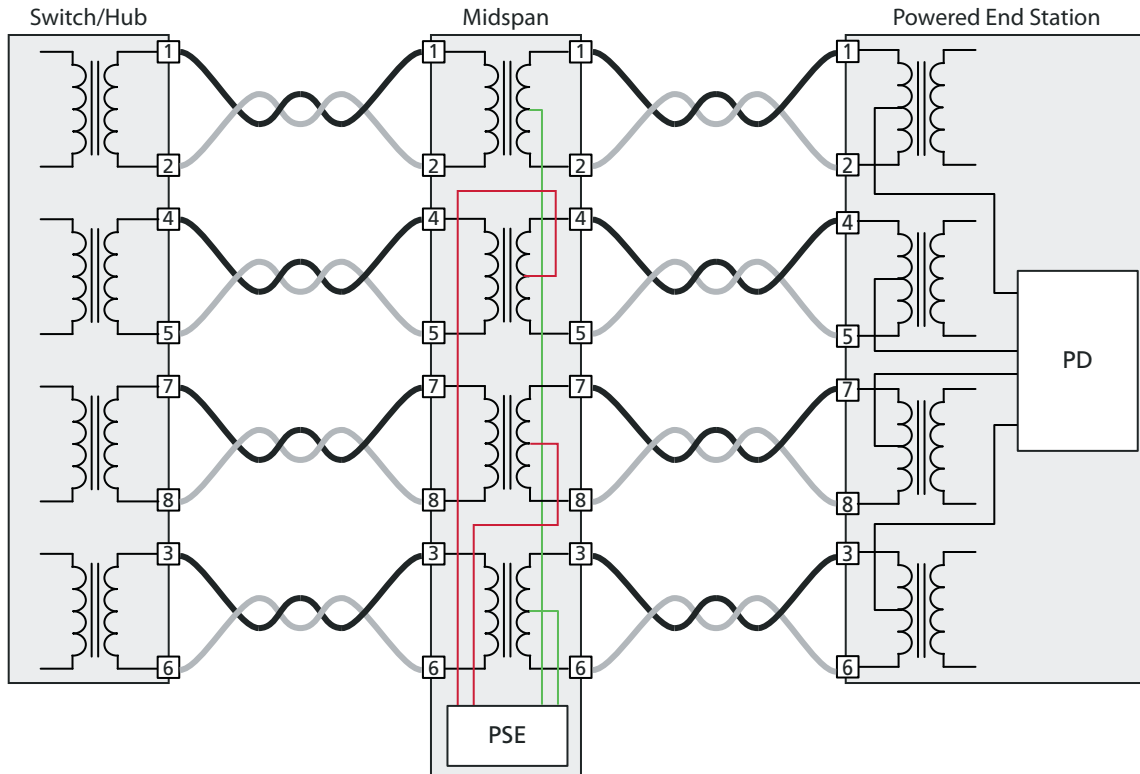

Figure 4: 1000BASE-T Midspan Powered (Alternative A – Green; Alternative B – Red)
- Midspan PSE, supporting 10BASE-T/100BASE-TX/1000BASE-T (Figure 4 on page 5)